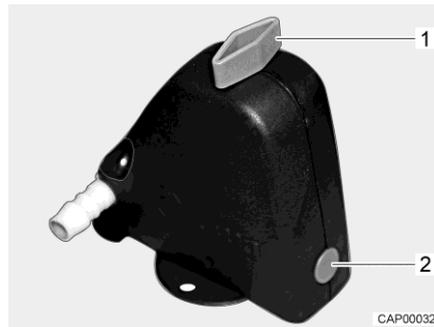
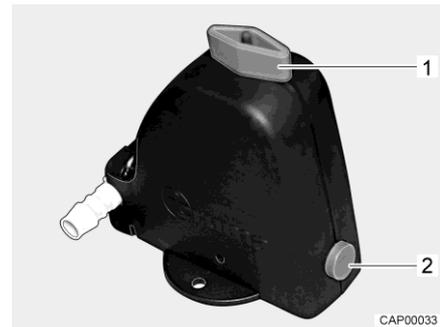

Fig. 98 Safety/drainage valve closed
Fig. 99 Safety/drainage valve open
- Open the safety/drainage valve (Fig. 98). To do this, turn the knob (Fig. 98,1) parallel to the safety/drainage valve. The push button (Fig. 98,2) jumps out. The open safety/drainage valve is shown in Fig. 99.